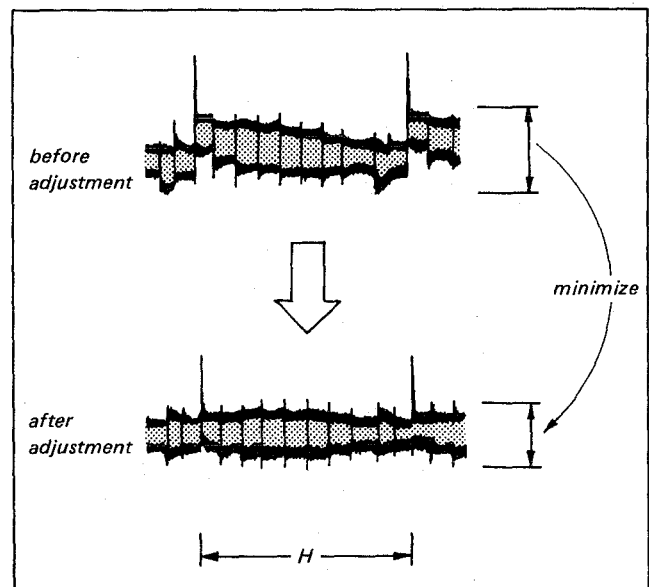

Fig. 5-16. Y-comb adjustment
- i) Adjust RV12 for minimum output. (See Fig. 5-16.)